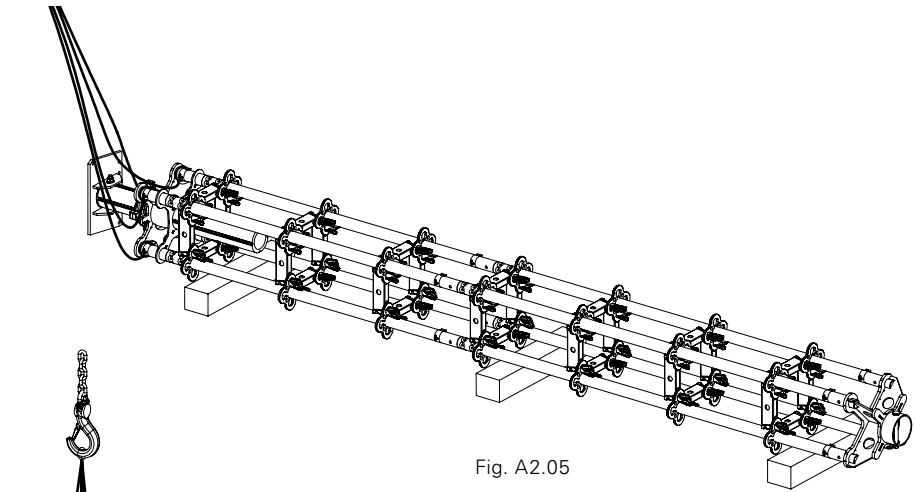

Fig. A2.05
1. Surround prop below the Head Spindle, e.g. with textile tape. (Fig. A2.05)